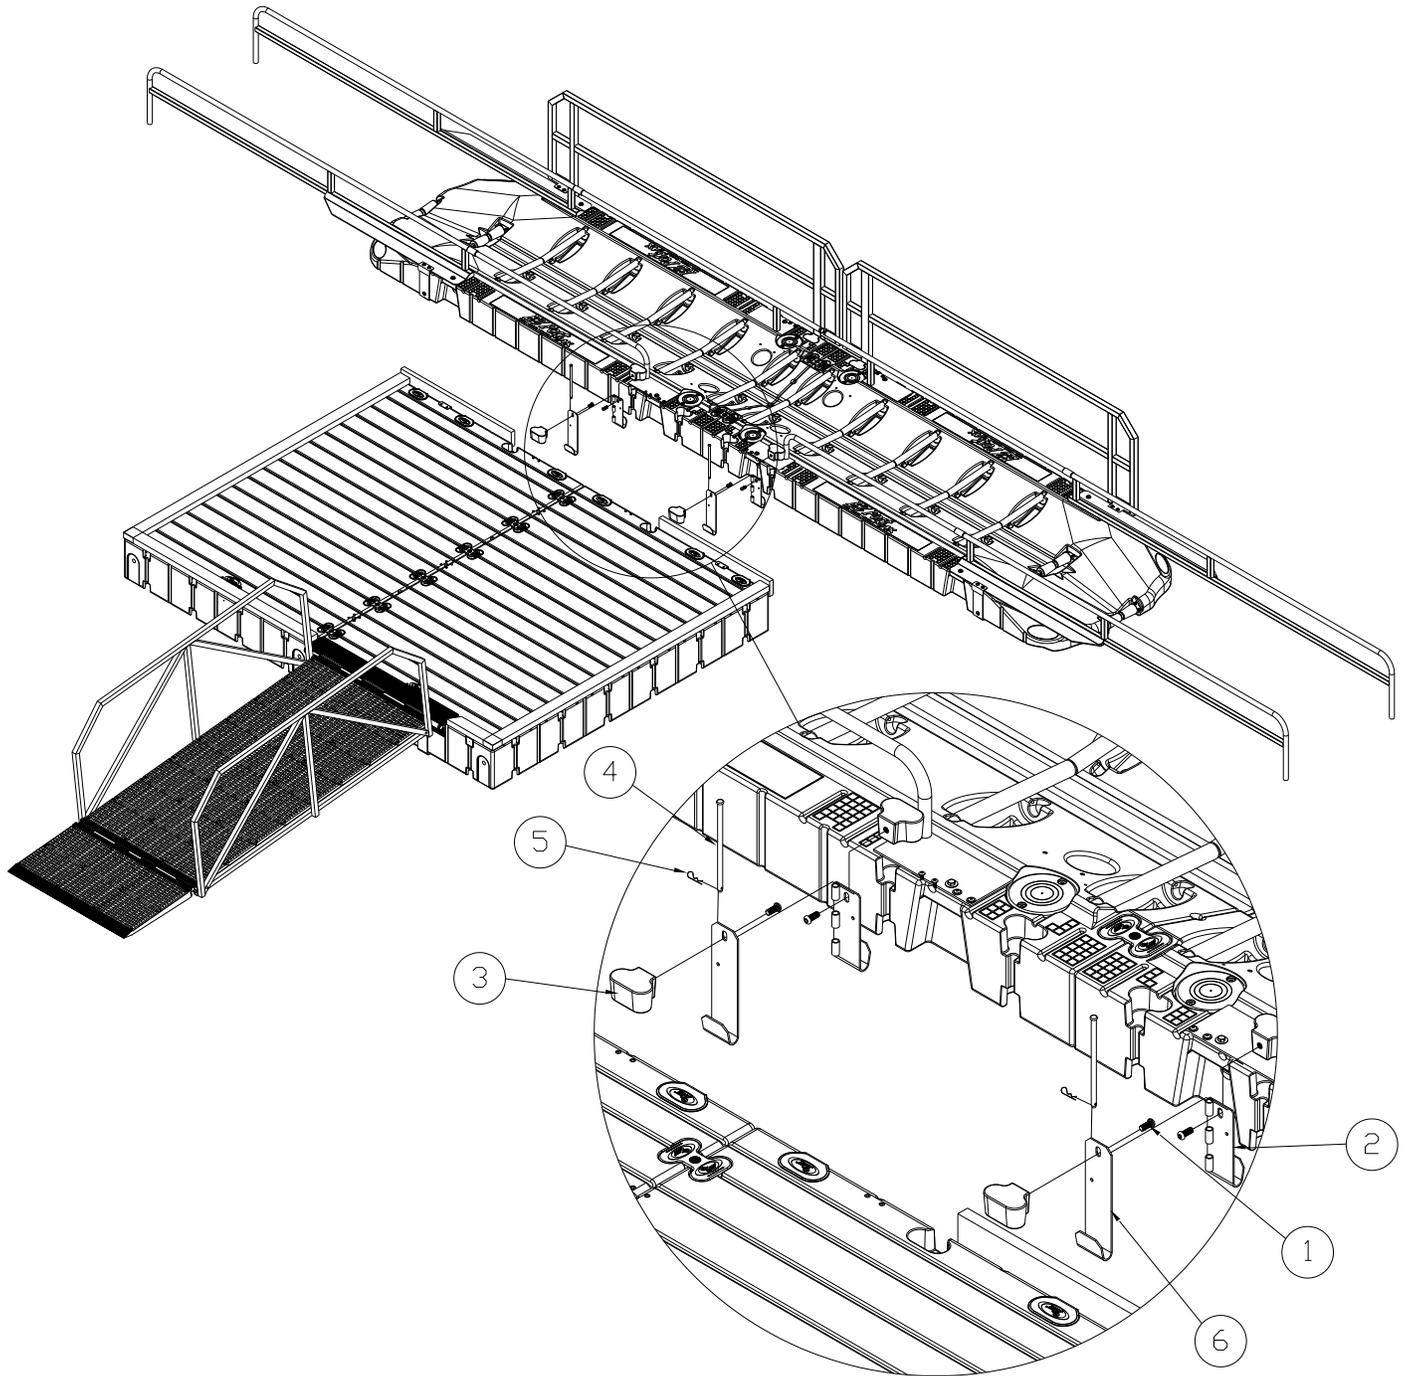

Figure 19
- Attach shorter hook to EZ Launch using a female hardware connector and 5/8-11 flat socket head screw as shown in Figure 19.
- Attach longer hook to adjacent pocket in EZ Dock using a female hardware connector and 5/8-11 flat socket head screw as shown in Figure 19.